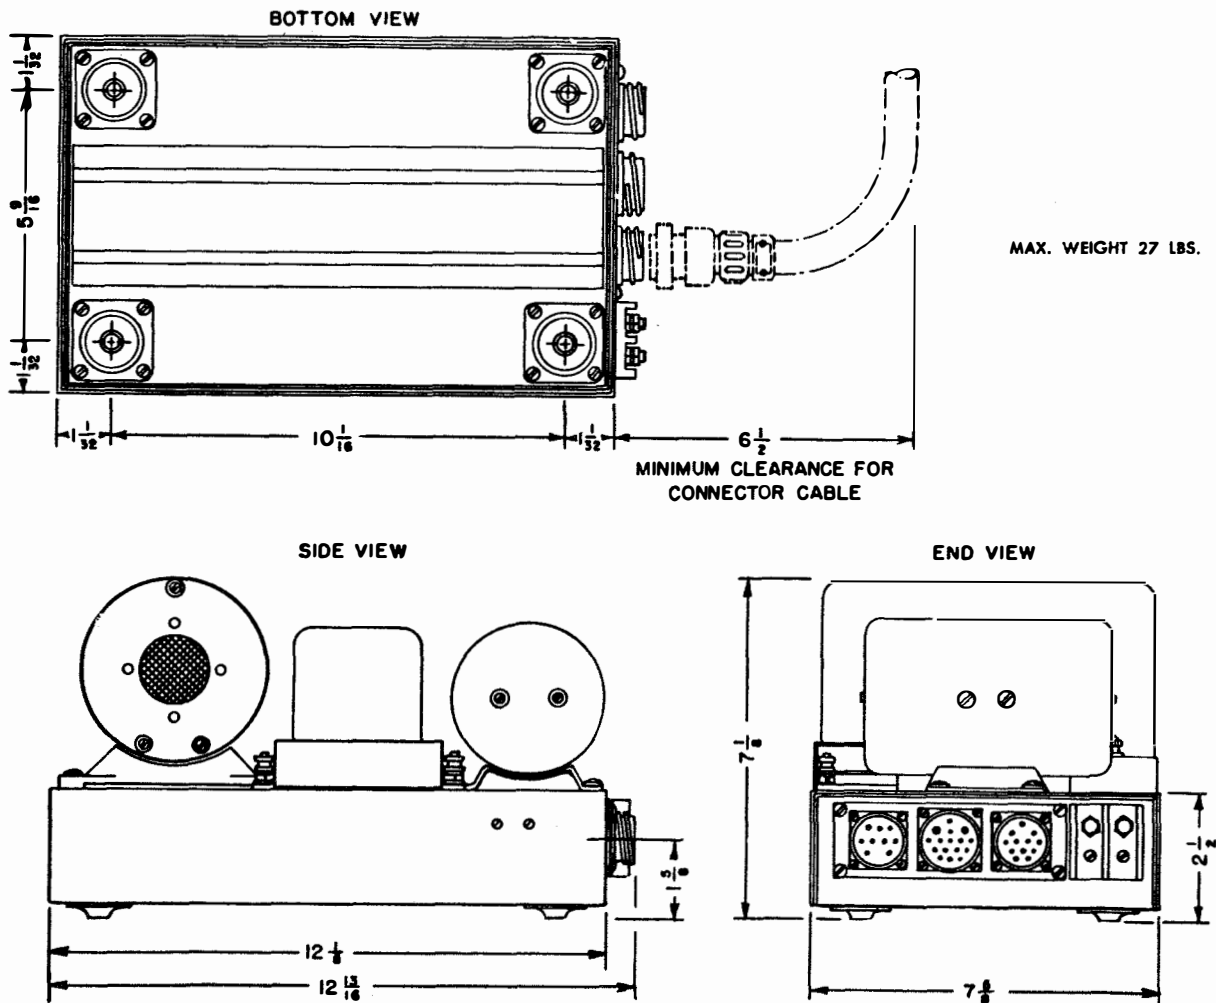

Figure 3-9 Type -21881-B Dual Dynamotor Power Unit Installation Diagram
(1) The Dynamotor Power Units have been provided with shock mounts to reduce the effects of the vibration. Figures 3-9 and 3-10 show the overall and mounting dimensions of the units. The base plates must be removed from the chassis for mounting. Bolts should be inserted from the inside of the shock mounts and tightened firmly before the units are fastened to the base plates. The units may be changed or removed for servicing without disturbing the base plates by removing the screws that hold the chassis to the base plates.